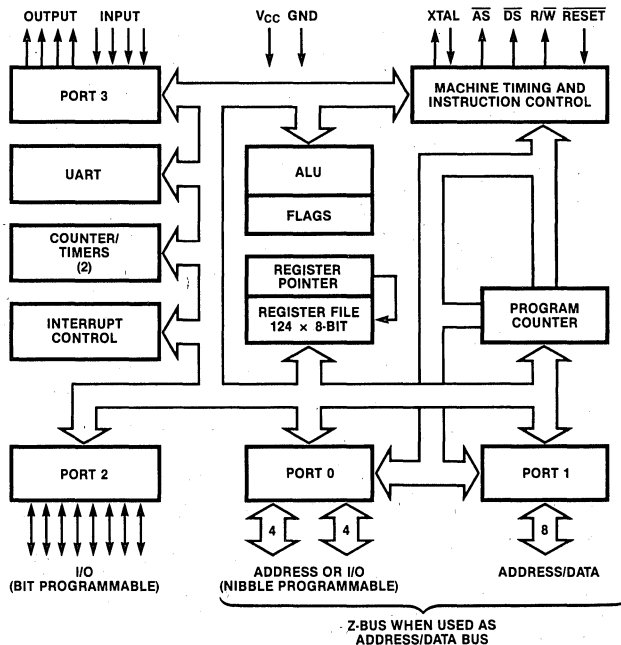

Figure 3. Functional Block Diagram
To unburden the program from coping with real-time problems such as serial data communication and counting/timing, an asynchronous receiver/transmitter (UART) and two counter/timers with a large number of user-selectable modes are offered on-chip. Hardware support for the UART is minimized because one of the on-chip timers supplies the bit rate. Figure 3 shows the Z8691 block diagram.
**P00-P07, P20-P27, P30-P37.** *I/O Port Lines* (input/outputs, TTL-compatible). These 24 lines are divided into three 8-bit I/O ports that can be configured under program control for I/O or external memory interface (Figure 3).